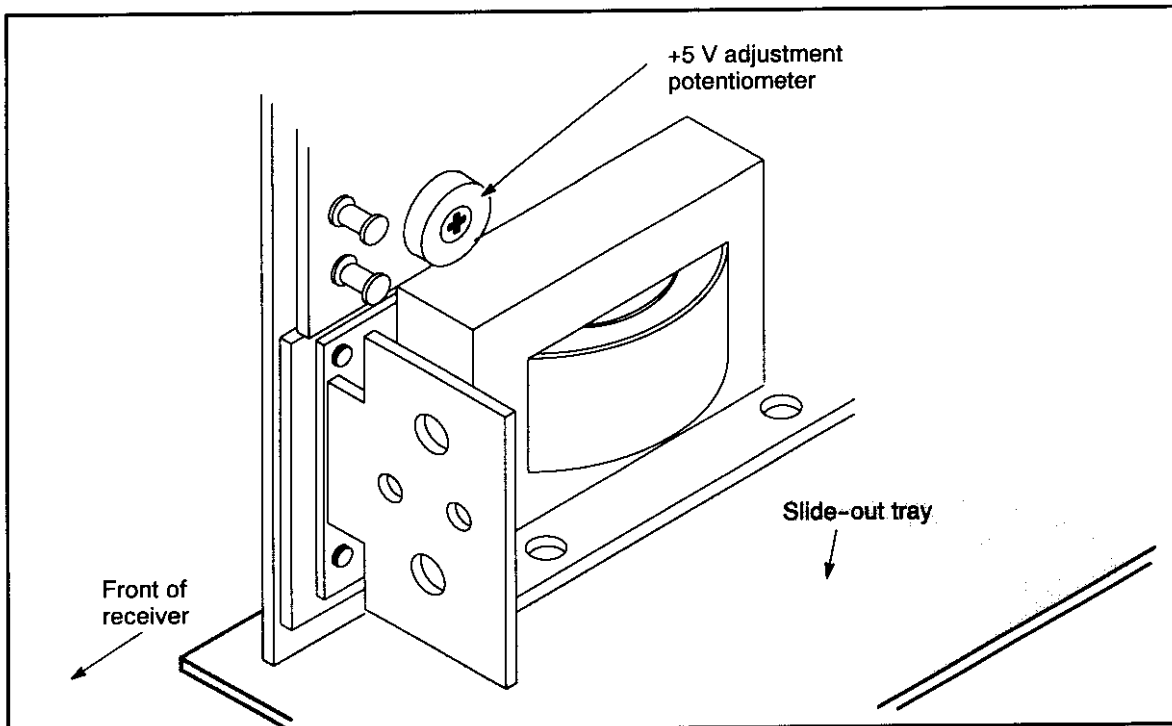

Figure 39. Location of the Receiver +5 VDC Adjustment.
- b. If necessary to adjust the output level, use Figure 39 to locate the voltage adjustment potentiometer.